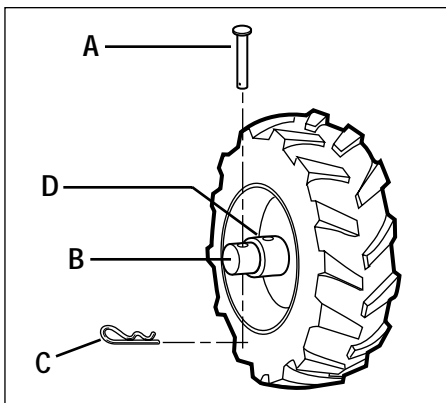

Figure 3-3: FREEWHEEL position.
## 5. FOR FREEWHEEL mode (Figure 3-3):
Slide the wheel inward and insert the wheel drive pin (A, Figure 3-3) only through the hole in the wheel shaft (B). Secure the wheel drive pin with the hairpin cotter (C) by pushing the hairpin cotter in as far as it will go. Repeat for the other wheel and then remove the support from beneath the transmission.